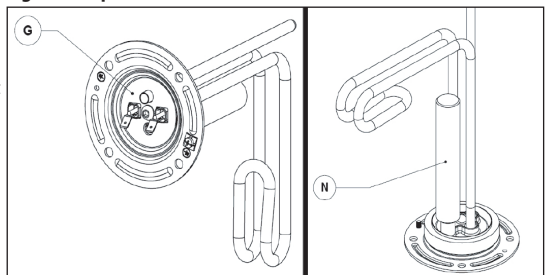

Figure 8 - Heating Element and Anode Rod Detail
The purpose of the anode rod (Figure 8, N) is to protect the tank against corrosion. The anode rod must be inspected once a year to determine whether it requires replacement. To access the anode rod, the heating element must be removed. See Removing the Heating Element above. Upon inspection, the anode rod surface should appear smooth. If the rod surface appears pitted, bumpy, rusty, or if the rod is missing completely, then it must be replaced.
- 4. Remove and replace the anode rod (Figure 8, N).